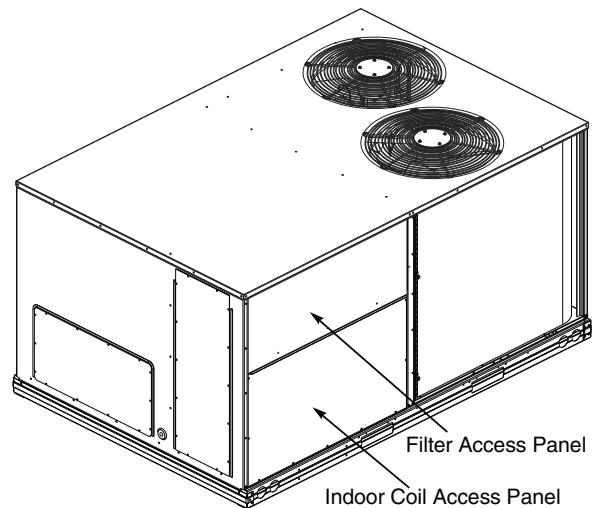

Fig. 13 — Typical Access Panel Locations
1. To gain access to the hood, remove the filter access panel. (See Fig. 13.)